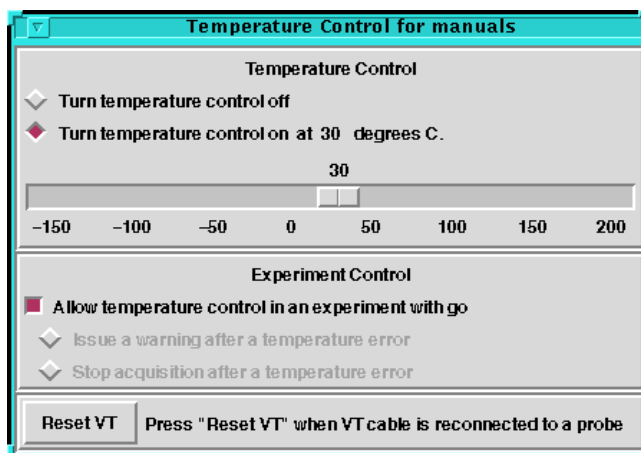

Figure 57. Temperature Control Window
For systems equipped with the optional variable temperature controller, the `temp` command opens the Temperature Control window, shown in Figure 57.
• Alternatively, turn off experiment control of the temperature and allow only the Temperature Control window, shown in Figure 57, (and the command `sethw`) to set the temperature.